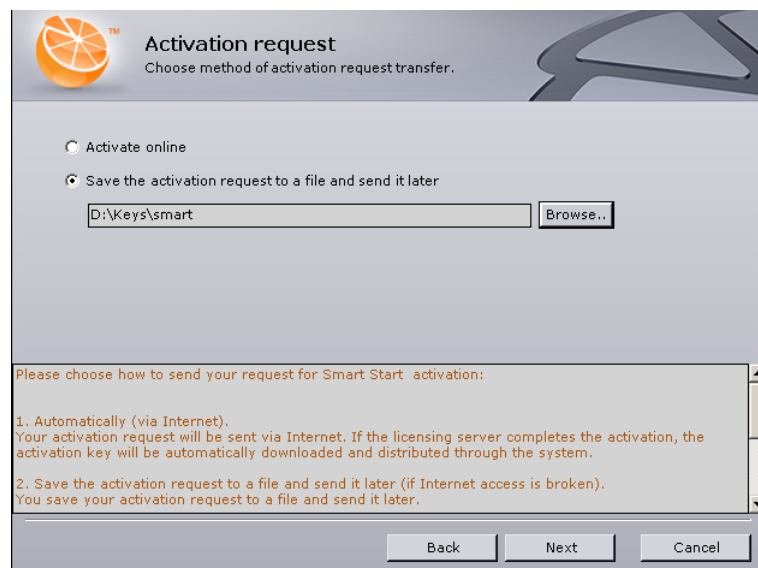

Fig. 4.6—6 Selecting manual sending of an activation request
4. Click the **Browse** button (see Fig. 4.6—6); when the dialog box appears, enter the desired path and file name to which you wish to save the activation request. Click the **Next** button.